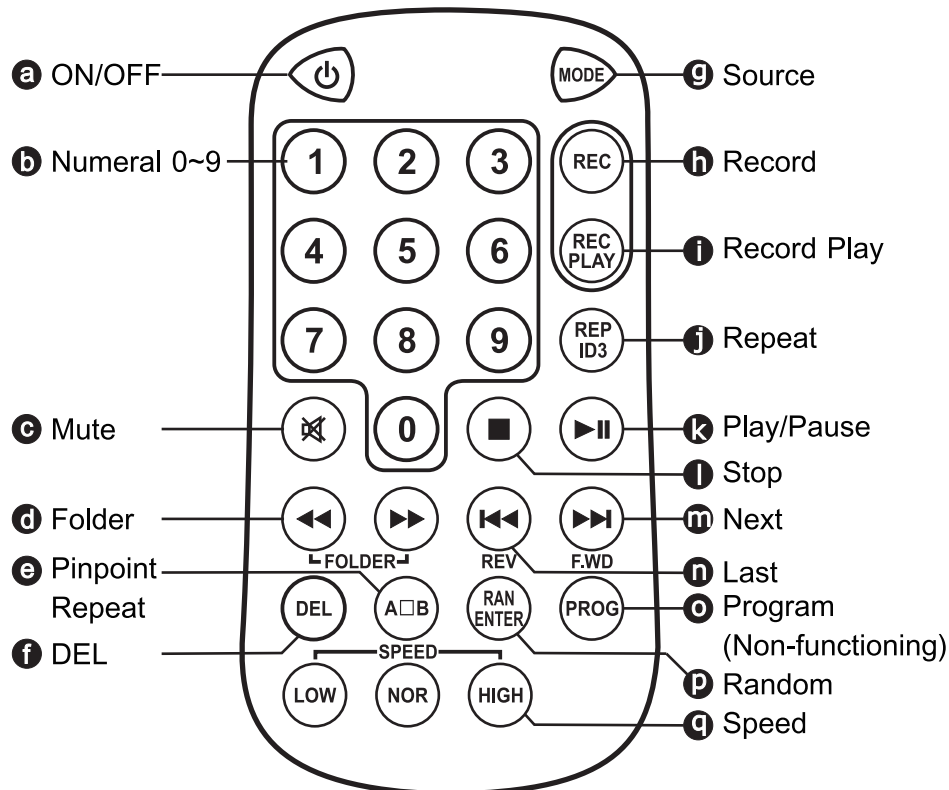

Fig. 17
- (1) Press REC PLAY after the recording process, it will play the last recorded track. Press STOP and then press REC PLAY, it will play the first track of the REC folder.
- (2) Press REC PLAY to enter into recorded tracks. Press REV / F.WD to search for tracks.
3. Remote Controller Controls, Fig. 17: